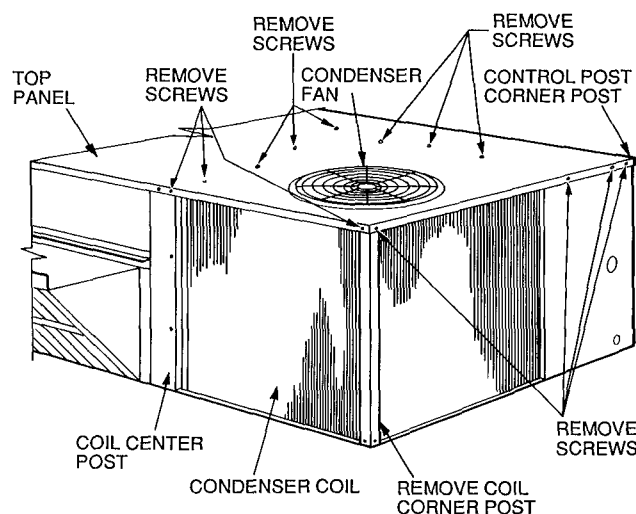
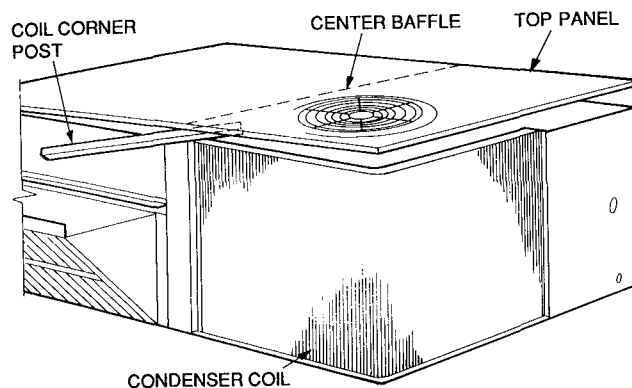

Fig. 24 — Cleaning Condenser Coil
Fig. 25 — Propping Up Top Panel
3. Remove condenser coil corner post. See Fig. 24. To hold top panel open, place coil corner post between top panel and center post. See Fig. 25.